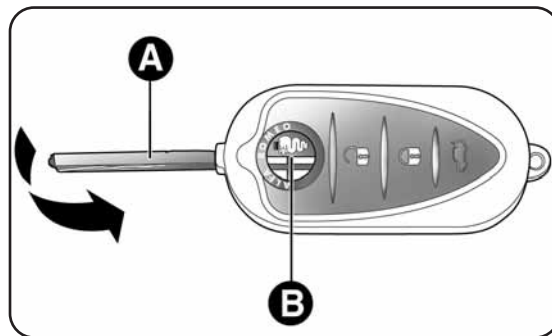

fig. 15
The metal insert A-fig. 15 operates:
*Press button B-fig. 15 only after moving the key away from your body, especially your eyes, and from objects which could get damaged (e.g. your clothes). Do not leave the key unattended, because someone, a child especially, may accidentally press the button while handling the key.*